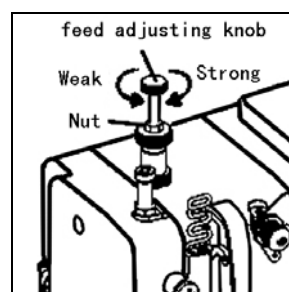

Fig. 40
34、Adjustment of the presser of retral presser foot mechanism (Fig.40)